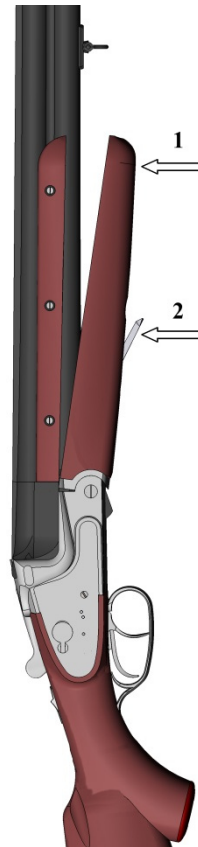

Figure 6
2.2.3 Attaching forearm (Figure 6)